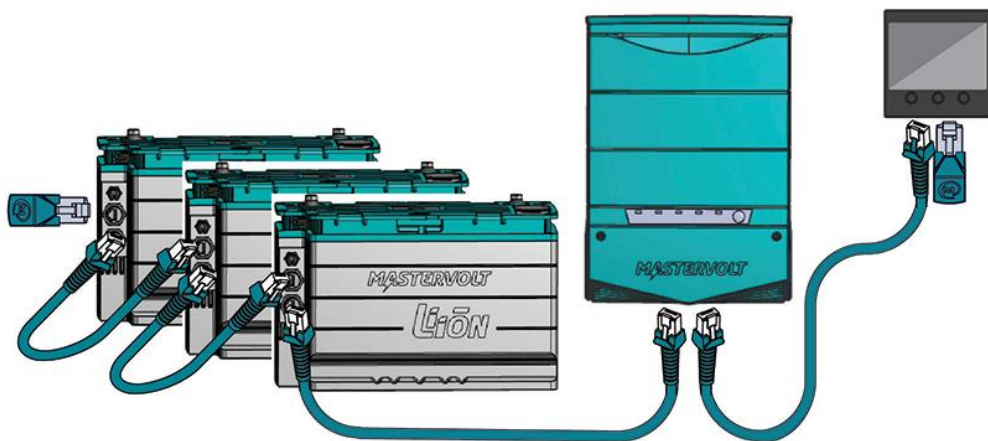

Figure 5: MasterBus cables
- MasterBus: connect two MasterBus cables (or one cable and one Terminator). See Figure 5 on page 13.